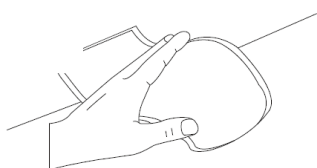

Fig. 1
2. Clean the surface where the ribbon will be installed. Fig. 1